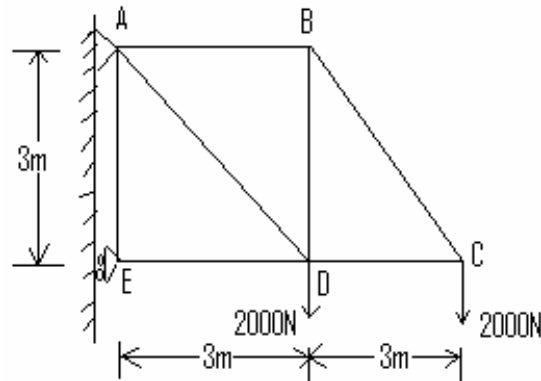

Figure.3
5. Determine the forces in all the members of the truss shown in Figure.3. [15]